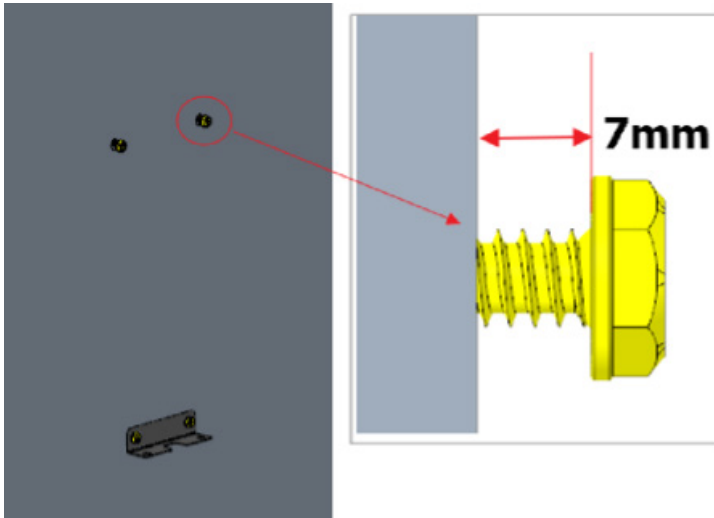

Figure A-5 Fixed Socket and Socket holder bracket
3. Use a  $\Phi 8$  drill bit for the wall to open 4 holes with a depth of 70mm, install an  $\Phi 8^*60$  expansion tube, and use two M6 self-tapping screws to fasten the wall mount to the two holes under the wall, and directly tighten the two holes on the top. Insert two M6 self-tapping screws. Note that the screw head protruding height is 7mm, as shown in Figure A-5.